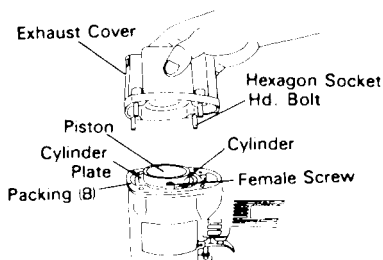

Fig. 13
(1) Removing procedures
- (a) Remove four hexagon socket hd. bolts to disassemble the exhaust cover, whereby the piston is exposed. (See Fig. 13).
A depletion of cylinder oil or a worn O-ring may restrict smooth operation. In such instances, remove the piston as illustrated in **Figs. 13, 14 and 16**, and clean the cylinder interior. Then apply 2cc of the recommended oil over the cylinder interior surface. If the piston still refuses to offer smooth operation, replace the worn O-ring. Also, apply a thin coat of grease (HITACHI Electric Tool Grease No. 1 or HITACHI Motor Grease) to the cylinder interior and the O-ring.